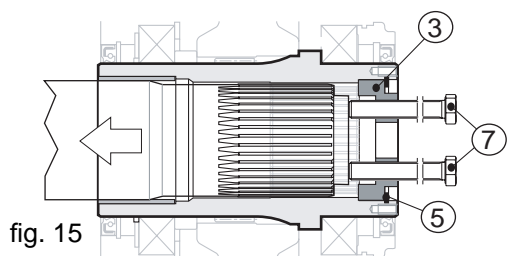

fig. 15
remove the anchor bolt (pos. 6) from its relative seat. Insert 2 bolts (pos. 7) into the two threaded holes on the backplate (pos. 3) and screw them until they touch the machine shaft (pos. 1). Now give them alternately one full turn each (see Fig. 15).